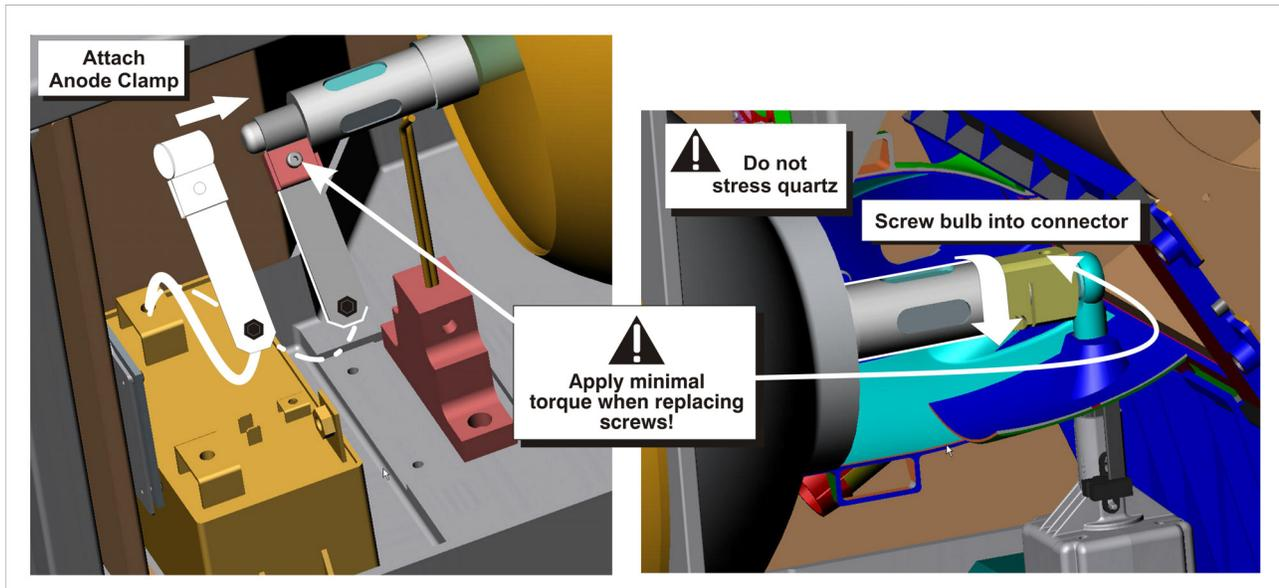

FIGURE 1-34 INSTALL NEW LAMP
- c. Tighten screws in both negative and positive lamp connectors. See Figure 1-34.